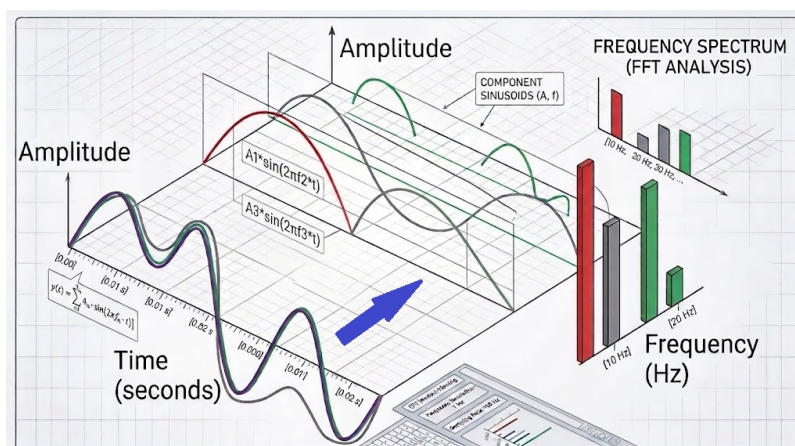

Figure 23: FT from time domain to frequency domain
- The Frequency Domain is the recipe — the broken-down smoothie showing exactly how much of each ingredient (frequency) makes up the whole (Figure 23).
$$x(t) = 3 \sin(2\pi 50t) + 2 \sin(2\pi 120t) \quad (\text{Figure 23})$$